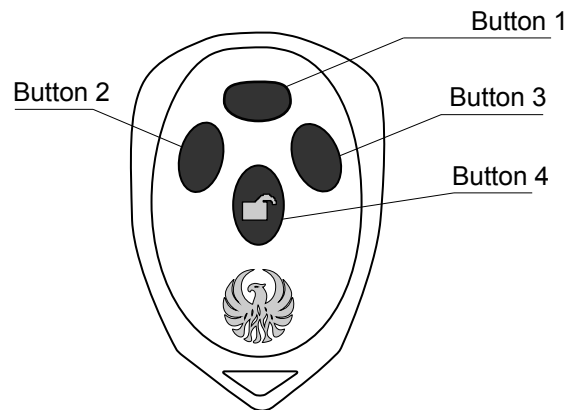

Fig.12 Remote transmitter
- The remote control works in a single channel mode. It has four buttons. See Fig.12 Remote transmitter. The function of button 1, button 2, button 3 and button 4 are the same. With each press of the remote control button which has been programmed, the gate will close, stop, open or stop cycle.